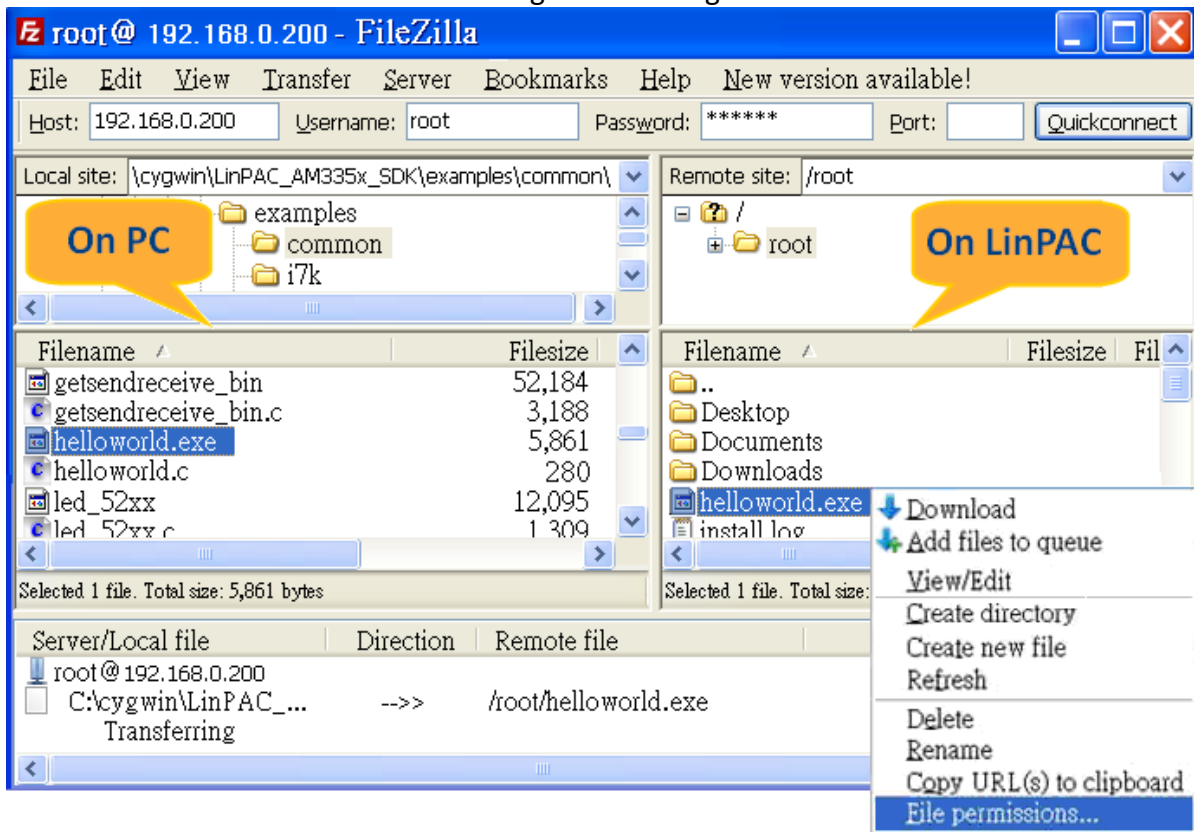
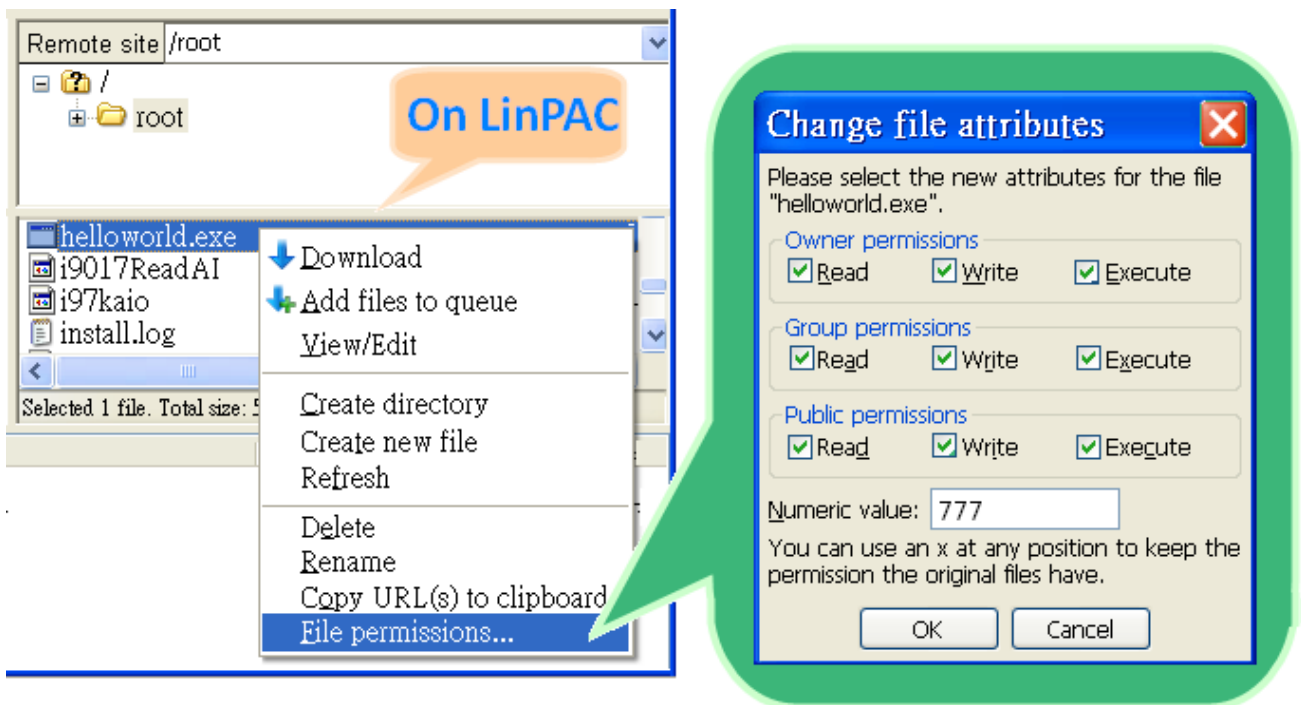

Fig.3-31
Fig.3-32
- (4) Click the helloworld.exe file in the LP-52xx to select it and then right click the file icon and click the “File Permissions” option. In the Properties dialog box, type 777 into the Numeric textbox, and then click the OK button. Refer to Fig. 3-31 and Fig. 3-32 for more details.